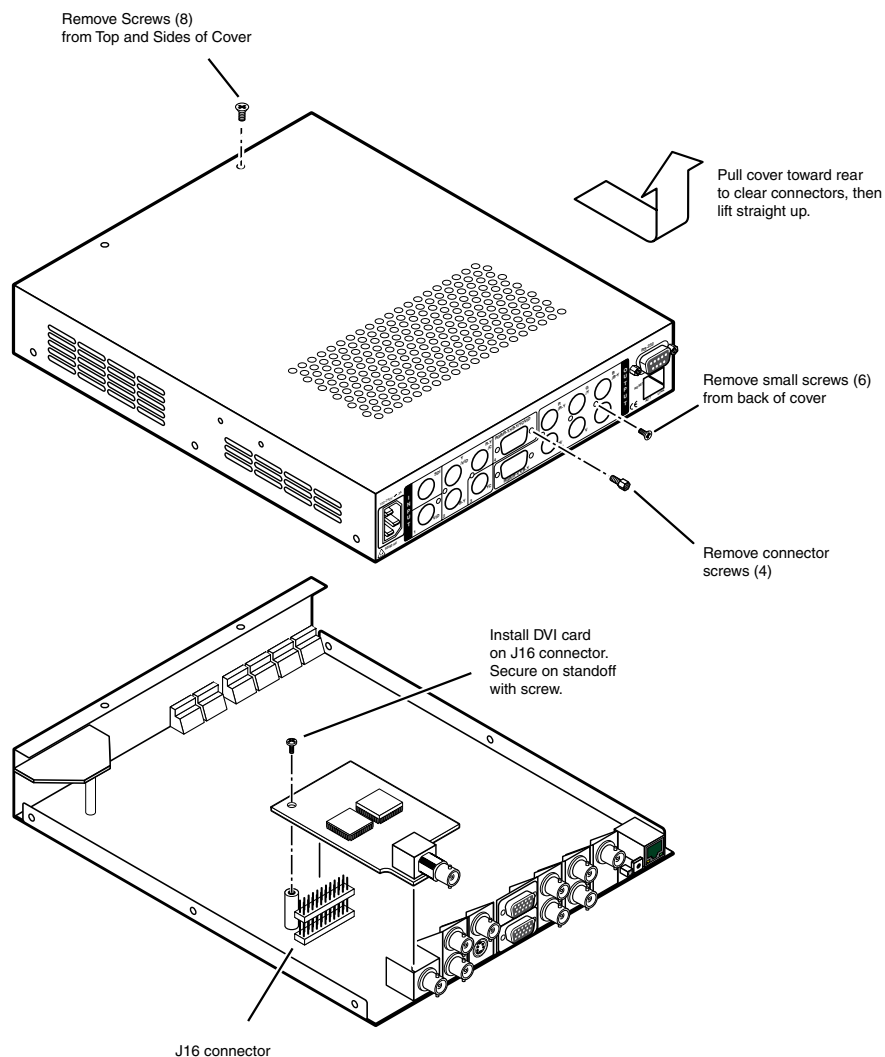

Figure B-1 — Installation of the SDI card
3. Remove the cover of the scaler (the top half of the enclosure) by removing the screws, then slide the cover back to clear the connectors and lift it straight up (figure B-1).